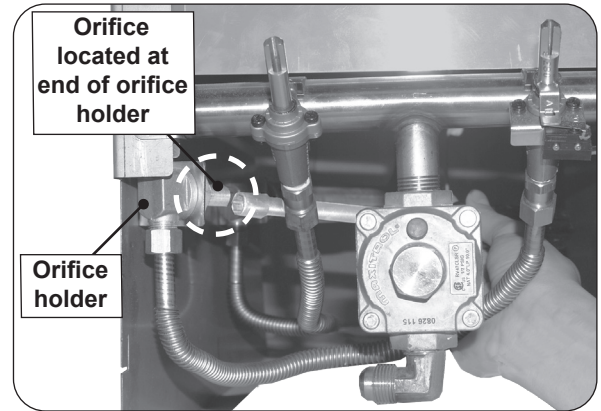

Fig. 42-1 Orifice locations
4. Using a 3/8" socket nut driver, remove the orifice from the orifice holder (see Fig. 42-1) and check the number stamped on the orifice face.